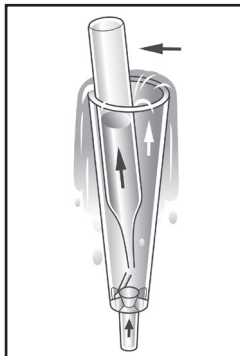

Figure 1
2. Place the CHEMet ampoule, tip first, into the sampling tube. Snap the tip. The ampoule will fill leaving a bubble for mixing (fig. 1).